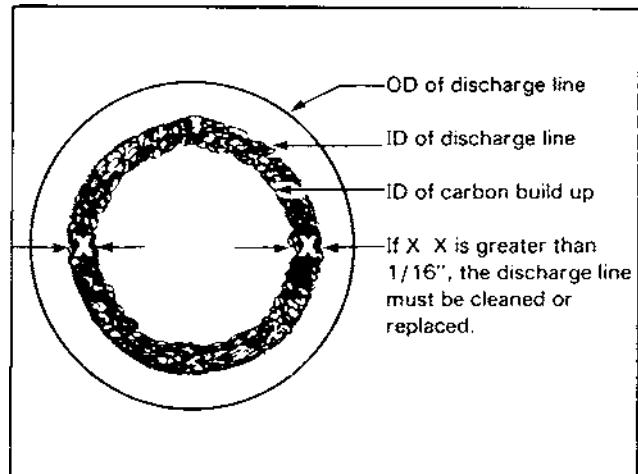

Fig. 7-2. Air discharge line
4. Inspect the air discharge line from the air compressor. If the total carbon deposit thickness (Fig. 7-2) inside the air discharge line exceeds 1/16 inch, remove the head and clean the air passages thoroughly. Also remove and clean or replace the discharge line. Contact the nearest Cummins Distributor or refer to Cummins Bulletin 3379056, "Air Equipment Rebuild Manual" for removing the air compressor head.